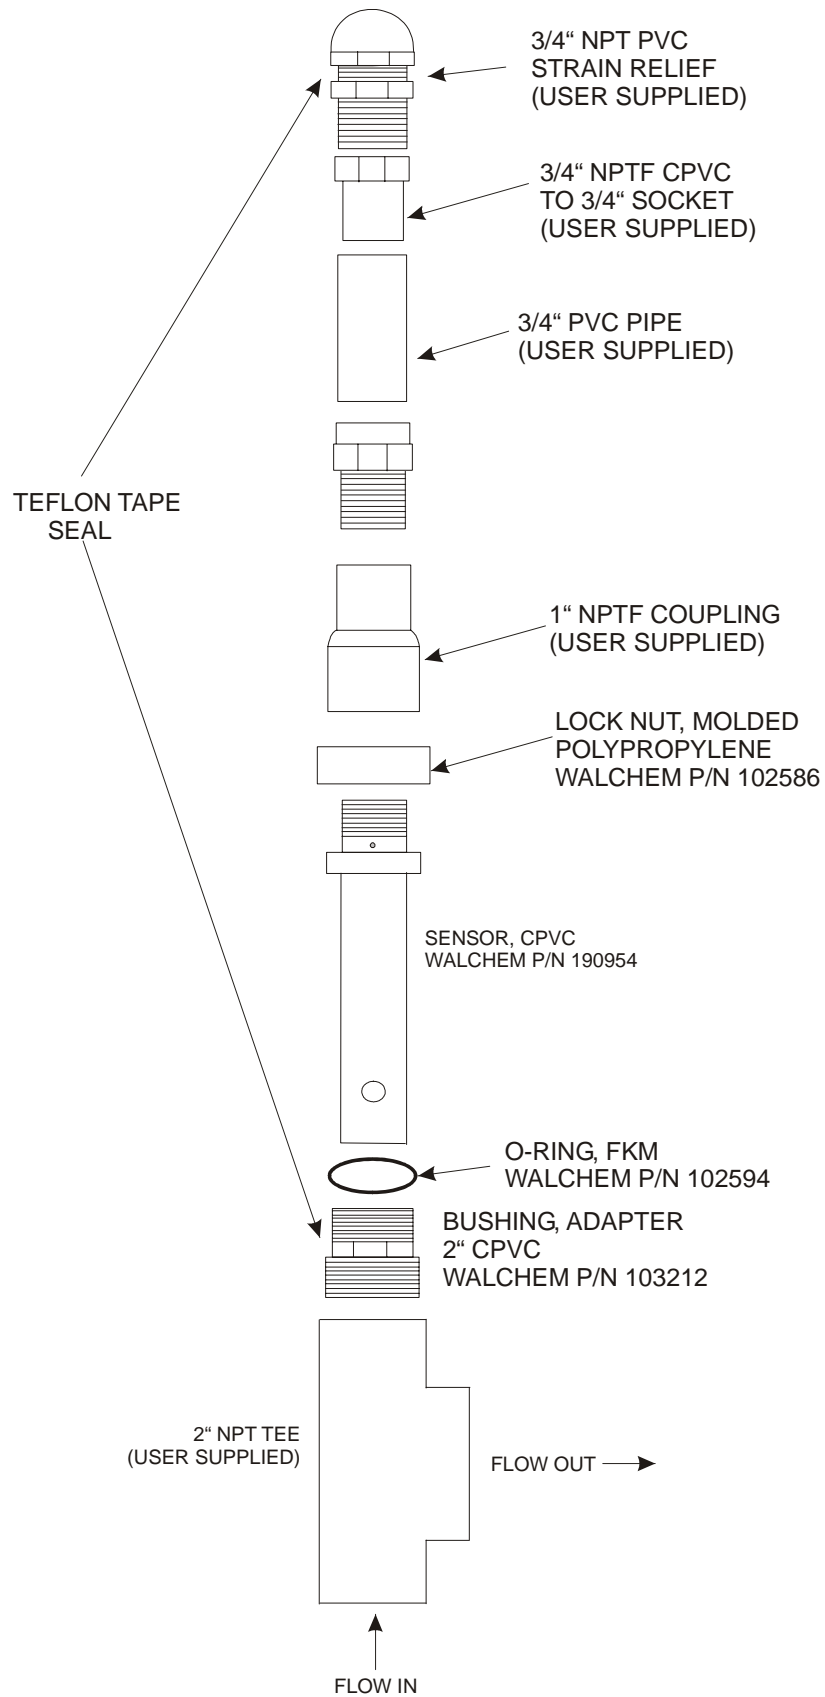

Figure 4A In-Line Installation – P/N 190954
Thread the custom bushing into the end port of a 2” or larger diameter tee as shown in Figure 4A. Note that the top of the sensor has a dimple drilled in the side to indicate the direction of the flow channel. Align this dimple with the tee exit. 2” to ¾ “ adapters are usually used on the entry and exit ports to allow the use of ¾” pipe.
**Caution:** *It is important that the flow direction is in the end port and out the side port (as shown in Figure 4A) to provide maximum cleaning of the sensor.*
Insert the sensor cable up through the custom lock nut as shown in Figure 4A. Lubricate the o-ring and insert the sensor into the custom bushing. The flange on the sensor provides a sealing surface against the o-ring.